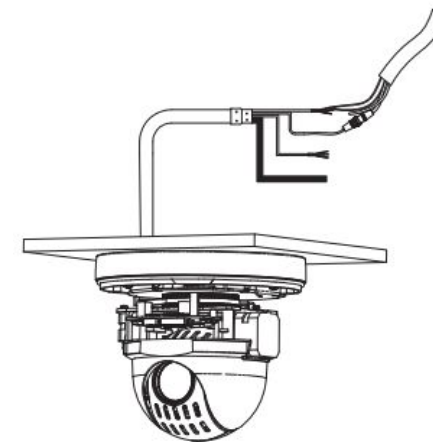

Figure 2-4
**Step 4** Connect the necessary cabling to the camera. See Figure 2-4.